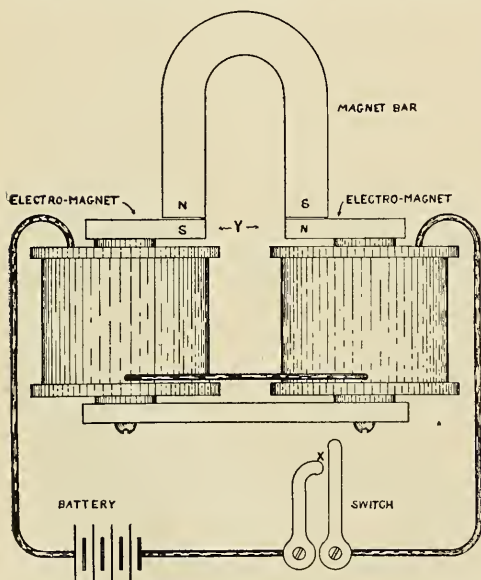

FIG. 5. MAGNETIZING THE BAR
split pins like (H), Fig. 5. The same figure shows one of the pins driven at (G). Now then, sometimes the expanding point of the pin would cling and hold and then again it would not. Considerable of this man's work pulled off. Finally he used a threaded bolt in places and in other places bolts with fastening nuts on the inner end, thereby making sure of a strong joint.
When the hardest temper that it is possible to obtain in the steel has been reached the finished bars are ready to be charged with magnetism, or, to use the common term, "magnetized." This is a simple operation and is shown in Fig. 5. The magnetizing power comes from the two cores of an electro-magnet which are wound with a suitable size of copper wire, the ends of which are shown connecting with a switch and battery. Closing the switch at (X) causes battery current to flow through the windings of the two coils and the two cores become heavily charged with magnetism. At (Y) the magnetic circuit is broken, until the magnet bar is placed in position as shown. The magnetism now completes its path through the steel resting on the pole pieces. If the current flow from the battery is great enough